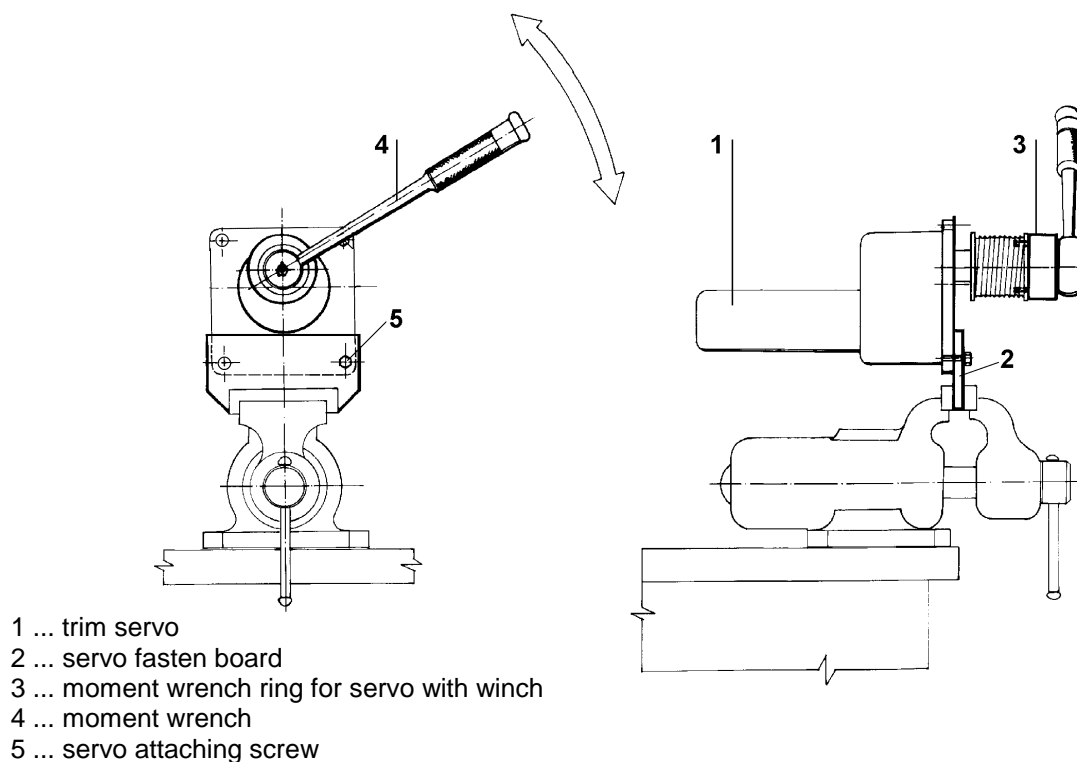

Fig. 6 Trim servo clamping for M_k measuring
- Fix the servo (Fig. 6, pos. 1) with of 2 pcs of screws (5) onto the board (2). Fasten the board to the vice on the worktable.
- Locate onto the servo winch (1) ring (3) for moment wrench (4).
- Switch on the power unit and locate the moment wrench (4) into the ring (3).
- Check the torque moment value (M_k) that has to be accord with the value in Table 1. Turn the moment wrench (4) in bot directions.
Use a ring (Fig. 6, pos. 3), Drwg No. L 143.9250-03.00 for trim servo.